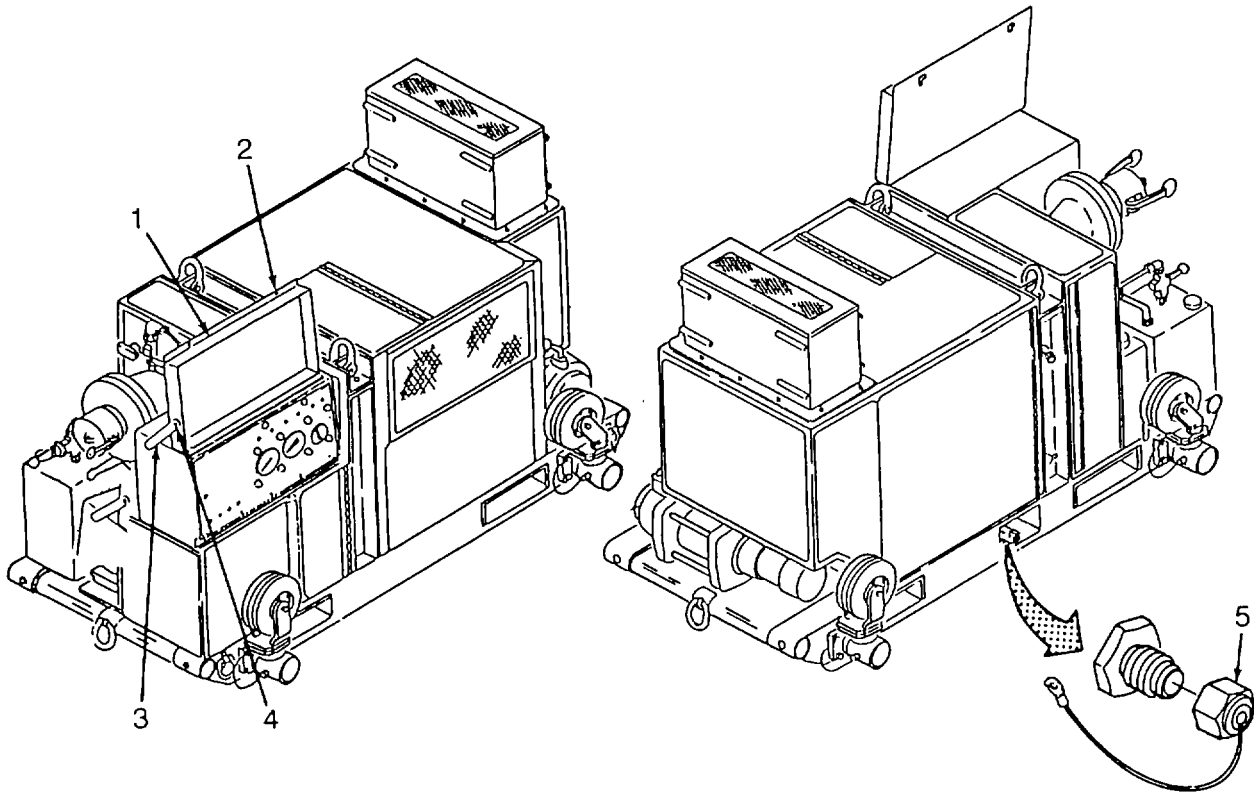

Figure 2-7. 200/600 GPM Pump Preparation for Use
- (6) Control panel. Refer to Figure 2-7.
- (a) On control panel (1) release two turn-lock fasteners (2) and lift up.
- (b) Rotate door latch (3) and position it on mounting lug (4).